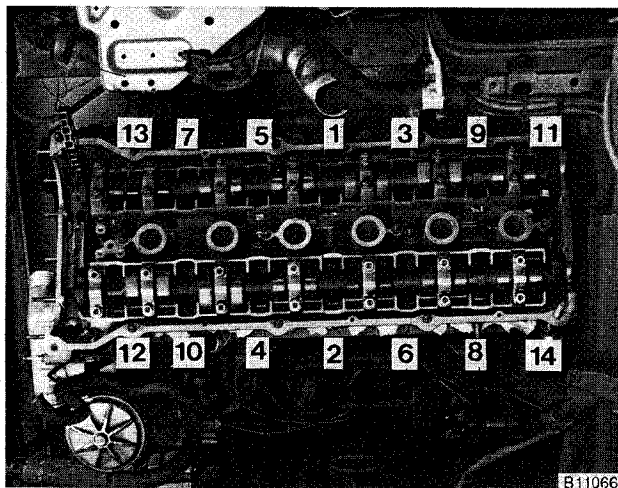

Fig. 41. Cylinder head bolt tightening sequence for M50 engine.
6. Tighten cylinder head bolts in correct sequence. See Fig. 41.